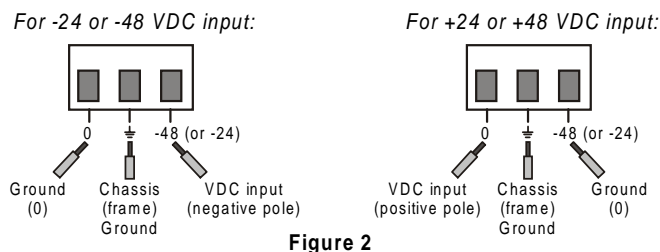

Figure 2
2. Place each wire lead into the appropriate TB plug terminal according to the voltage polarity mapping shown in Figure 2. (If the terminal is not already open, loosen its terminal screw.)
Refer to Figure 2 for proper mapping of the power supply wire leads to the TB plug's three terminals.